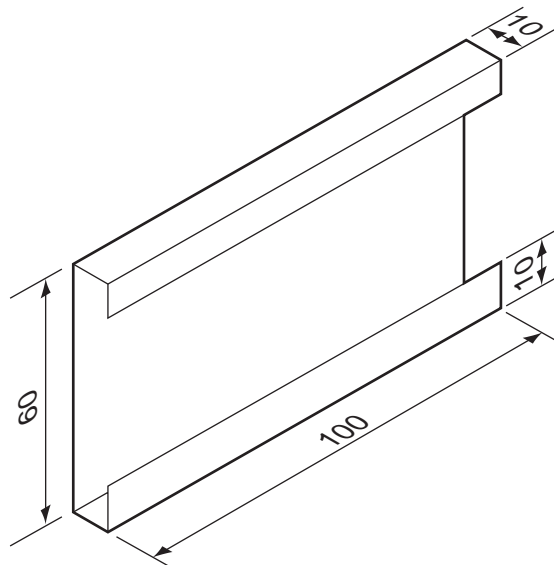

Fig. 11
- (f) Fig. 11 shows details of the holder for the 'next collection' time card, positioned on the front of the post box.